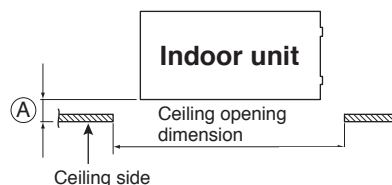

Fig. 6-11
Ⓐ must be within the range of 1/2"(13mm) to 23/32"(18mm). (Fig. 6-11)
- (1) Check that the ceiling hole is 23-5/8" (600 mm) × 23-5/8" (600 mm) (Fig. 6-11)
- (2) Confirm that the position of the indoor unit and the ceiling as shown in the diagram. If the positions of the ceiling surface and unit do not match, air leakage, water leakage, flap operation failure, or other problems may occur. (Fig. 6-11)